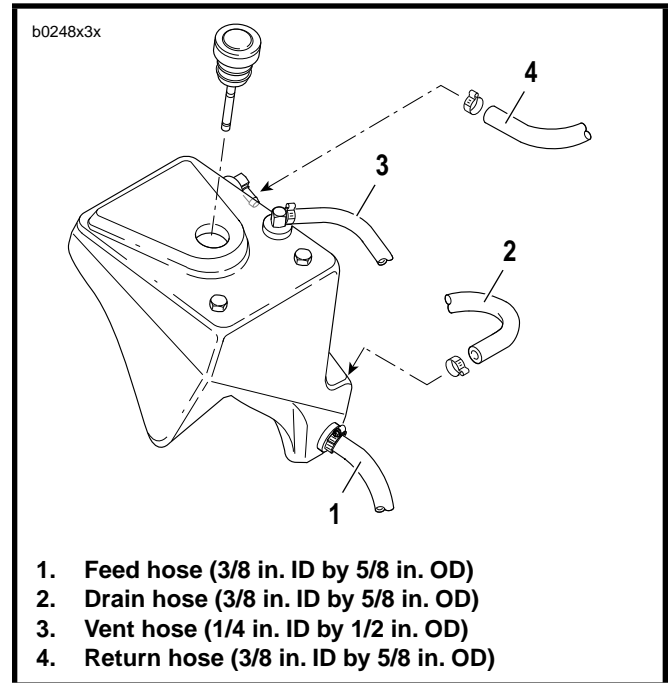

Figure 3-38. Oil Tank Hoses
See Figure 3-38. The oil tank has four hoses. The drain hose (2) attaches to a fitting on the left side of the frame. From the top of the tank, the vent hose (3) and the return hose (4) join the bottom feed hose (1) near the battery tray. Cable straps secure the hoses in place.